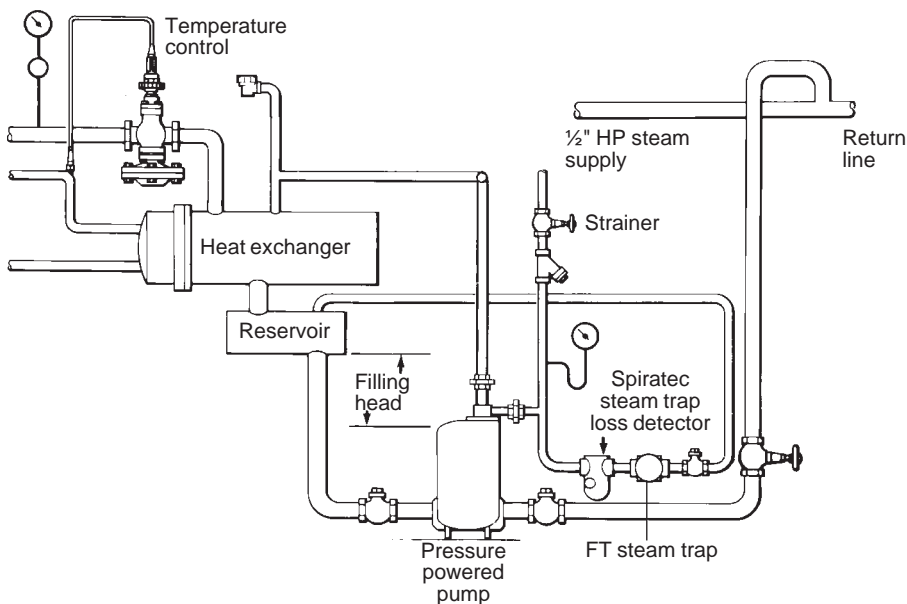

Fig. 4 Draining L.P. heat exchanger to overhead return. Pressure at PP pump outlet P2 exceeds pressure of supply to heat exchanger P1
1. Install the pump below the equipment being drained with the exhaust connection (10) vertically upwards. Pump should be installed with the recommended filling head (the vertical distance between the top of the pump and the bottom of the reservoir/receiver) as shown below. For other filling head variations, see the capacity table on TI-P135-03.
2. To prevent equipment flooding during the pump discharge stroke, a receiver or reservoir pipe should be installed in a horizontal plane ahead of the pump as shown in Fig. 4. For proper receiver / reservoir sizing refer to 'Inlet piping' table shown on page 4. All inlet line fittings must be fully ported. If desired overflow piping can be installed using a properly sized float and thermostatic trap. The trap inlet should be located at the maximum allowable water level, at or near the top of the receiver / reservoir, and it should discharge to a suitable drain.